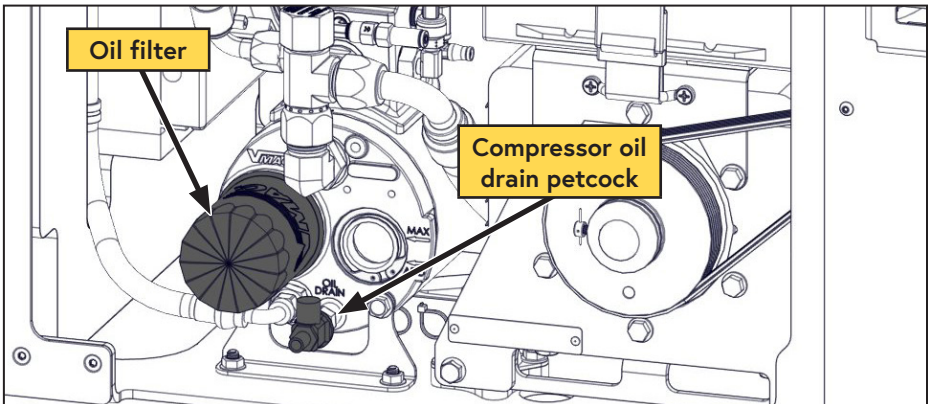

Figure 30 — Compressor oil filter
- Open the oil drain petcock and drain the oil into a container with a capacity of at least 1.6 USG (6 L) (Figure 30).